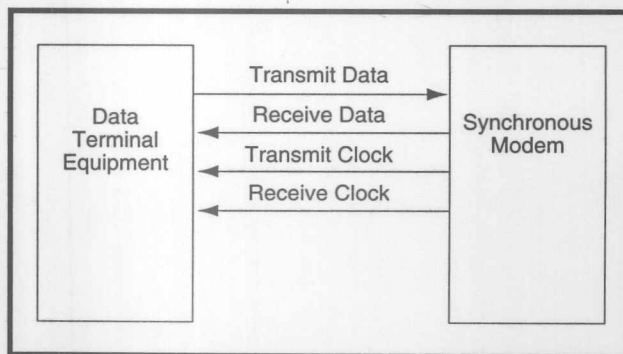

Figure 8—In a synchronous setup, the modem provides the clocking information to the DTE (the clocks are both  $\times 1$ ).
•From DCE—this selection implies that the communications line to which Analyst 2 is attached is providing clocking signals on the DB-25 interface leads (see Figure 8). These clocking signals are used both to receive and transmit data. In most cases, the transmit clocking is on interface pin 15, and the receive clocking is on interface pin 17. If this is not the case, Analyst 2 can be configured to derive clocking from either of the pins for both transmit and receive operation.